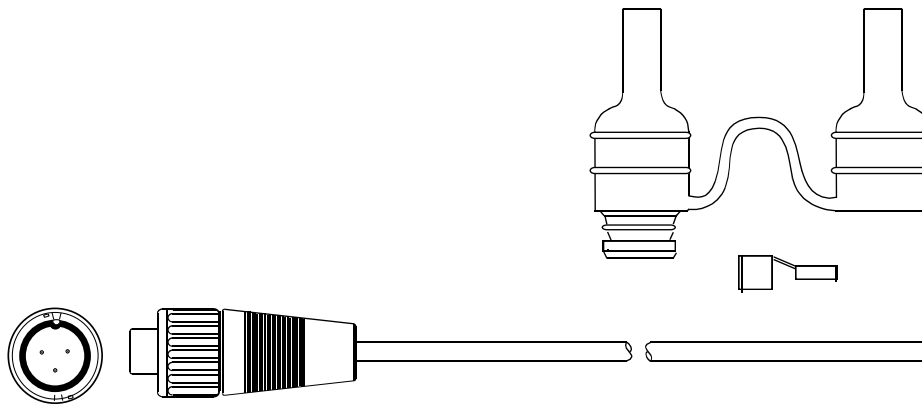

Figure 7: C98-20PW Cable with 40688G-47 2-Amp Fuse kit
- ❑ Using the wire cutters and wire strippers, prepare the end of the cable as necessary for your installation (**Figure 7**).